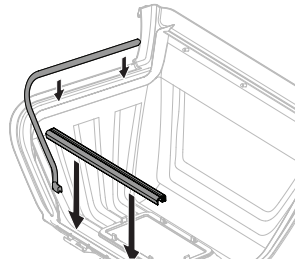

Figure 10
5. If not already installed, apply seals (720-05151A and 720-05152B) to the underside of the hood assembly as shown in Figure 10.